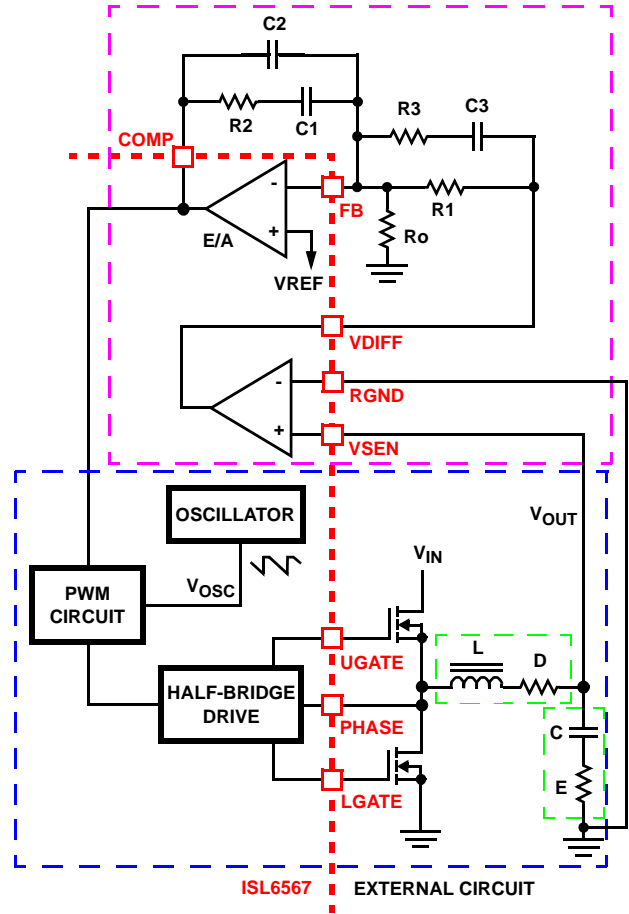

FIGURE 24. VOLTAGE-MODE BUCK CONVERTER COMPENSATION DESIGN
Figure 24 highlights the voltage-mode control loop for a synchronous-rectified buck converter, applicable, with a small number of adjustments, to the multi-phase ISL6567 circuit. The output voltage (V_{OUT}) is regulated to the reference voltage, V_{REF} , level. The error amplifier output (COMP pin voltage) is compared with the oscillator (OSC) modified saw-tooth wave to provide a pulse-width modulated wave with an amplitude of V_{IN} at the PHASE node. The PWM wave is smoothed by the output filter (L and C). The output filter capacitor bank's equivalent series resistance is represented by the series resistor E.
1. Select a value for R1 (1kΩ to 5kΩ, typically). Calculate value for R2 for desired converter bandwidth (F₀). If setting the output voltage via an offset resistor connected to the FB pin, R_o in Figure 24, the design procedure can be followed as presented. However, when setting the output voltage via a resistor divider placed at the input of the differential amplifier, in order to compensate for the attenuation introduced by the resistor divider, the